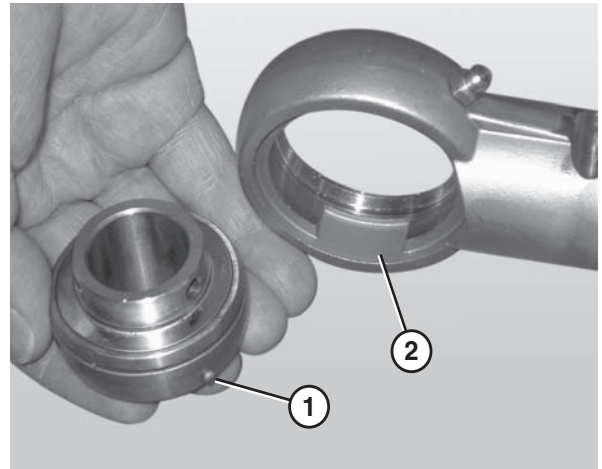

Figure 76
4. Remove the worn or damaged bearing (**Figure 76**).
*When inserting the new bearing, make sure the anti-rotation notch (**Figure 76, item 1**) on the bearing lines up with the groove inside the housing (**Figure 76, item 2**).*